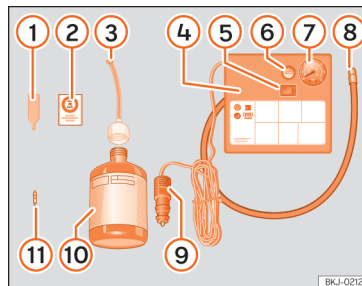

Fig. 31 Standard representation: anti-puncture kit contents.
»» **Fig. 31:**
- Unscrew the tyre valve cap and insert. Use the »» Fig. 31 ① tool to remove the insert. Place it on a clean surface.
- Shake the tyre sealant bottle vigorously »» Fig. 31 ⑩.
- Screw the inflator tube »» Fig. 31 ③ into the sealant bottle. The bottle's seal will break automatically.
- Remove the lid from the filling tube »» Fig. 31 ③ and screw the open end of the tube into the tyre valve.
- Place the insert back into the tyre valve using the tool »» Fig. 31 ①.
- Screw the compressor tyre inflator tube »» Fig. 31 ⑧ into the tyre valve.
- Check that the air bleed screw is closed »» Fig. 31 ⑥.
- Insert the connector »» Fig. 31 ⑨ into the vehicle's 12-volt socket »» page 139.
- Turn the air compressor on with the ON/OFF switch »» Fig. 31 ⑤.
- Attach the sticker »» Fig. 31 ② to the instrument cluster, within the driver's visual field.
Screw the inflator tube »» Fig. 31 ⑤ again and check the pressure on the gauge ⑥.